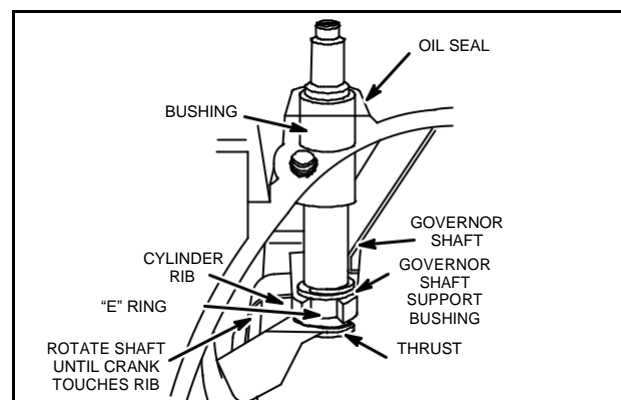
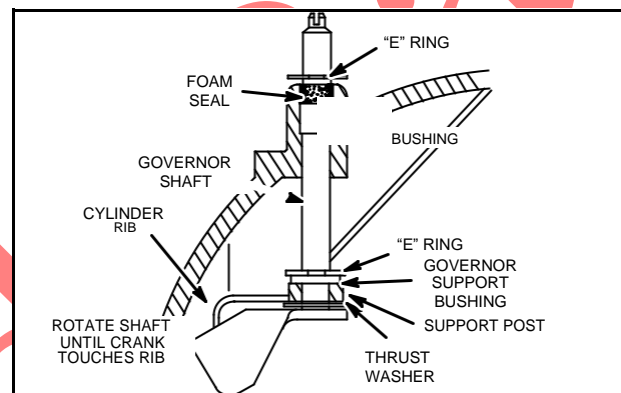
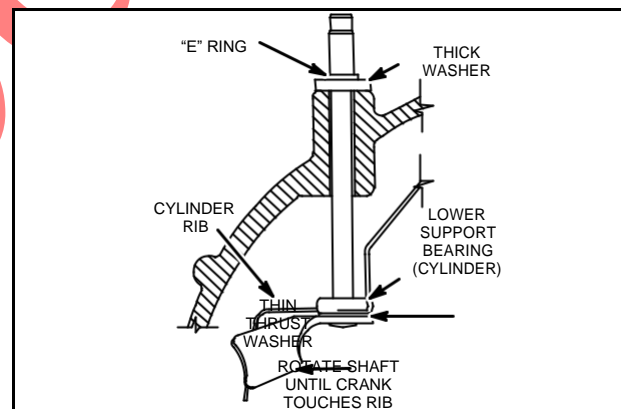

Fig. 14 – Governor Shaft Assembly (Twin II)
Fig. 15 – Governor Shaft Assembly Pre-Twin II
Fig. 16 – Governor Shaft Assembly (Early Style)
Opposed twin cylinder engines have three (3) styles of bushings on the governor shaft, Fig. 14, Fig. 15 and Fig. 16. They are not interchangeable.
1. Remove “E” ring from governor shaft, Fig. 14.
1. Remove from top of governor shaft, Fig. 15.
1. While pushing up on governor shaft, remove “E” ring and thick washer, Fig. 16.